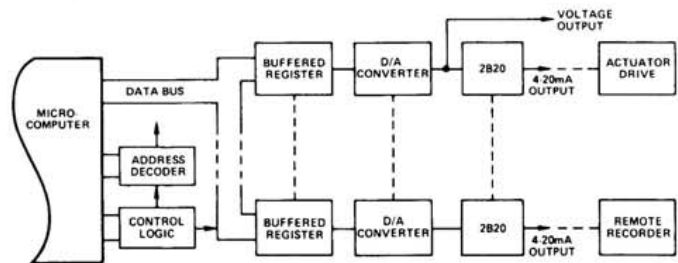

Figure 8. Microcomputer Analog Output Subsystem
**Microcomputer - Current Loop Interface:** Figure 8 shows a typical application of the 2B20 in a multichannel microcomputer analog output system. When a microcomputer is to control a final control element, such as a valve positioner, servomechanism or motor, an analog output board with 4 to 20mA outputs is often necessary. The output boards typically have from one to eight channels, each with its own D/A converter. The 2B20, in a compact package, allows for an easy installation without any additional components and offers a 12-bit system compatible performance.